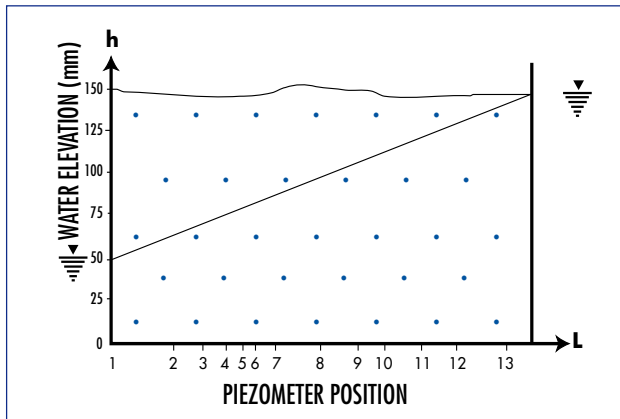

Fig. 1: Typical graph obtained for a hydraulic gradient
- *Hydraulic gradients in ground water flow, including the effect of permeability. (Fig. 1)*
Hydraulic gradient (Darcy's Law) resulting from groundwater flow between two potentials can be demonstrated visually. Levels in the piezometer tubes are plotted to show a linear profile (fig.1).